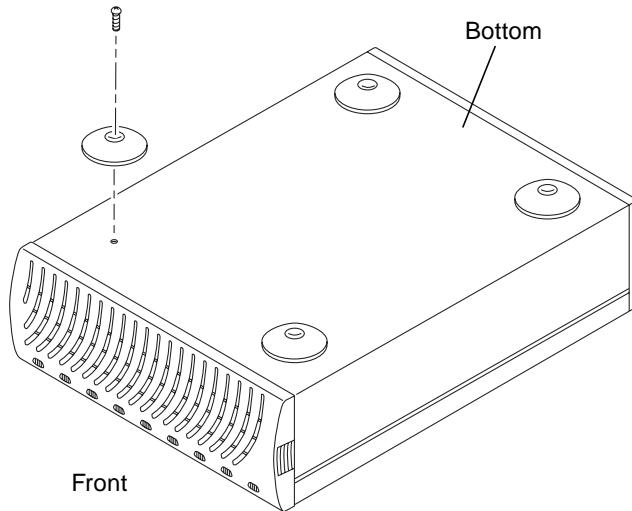

FIGURE 1 Removing the Feet
2. Using a Phillips screwdriver, remove the four screws that secure the feet to the array (FIGURE 1).